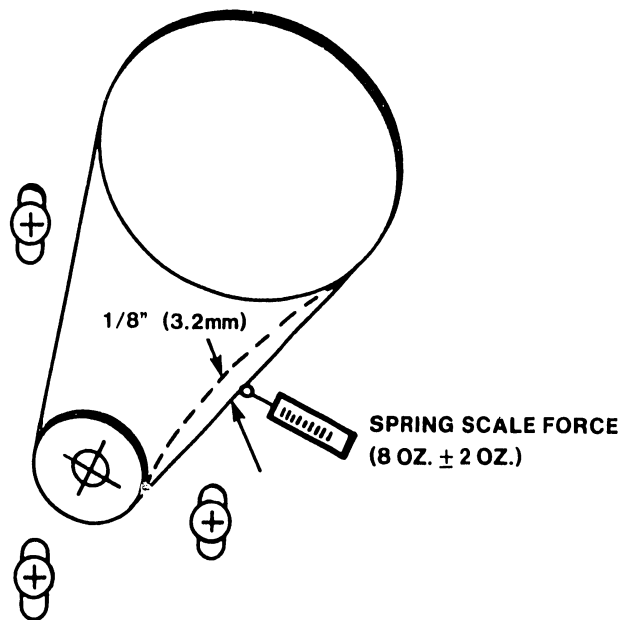

Figure 5-5 Paper Drive Belt Tension
- b. Using a spring gauge and scale, deflect the middle of the belt $1/8''$ (3.2mm). See Figure 5-5. The gauge should read 8 oz. \pm 2 oz. If the measurement is not within specifications, perform the adjustment in Paragraph 5.3.9.
- a. Using a screwdriver, slightly loosen the three motor mounting screws shown in Figure 5-5.
- b. Using a spring gauge, press the center of the drive belt downward using a force of 16 oz. \pm 2 oz. See Figure 5-5.